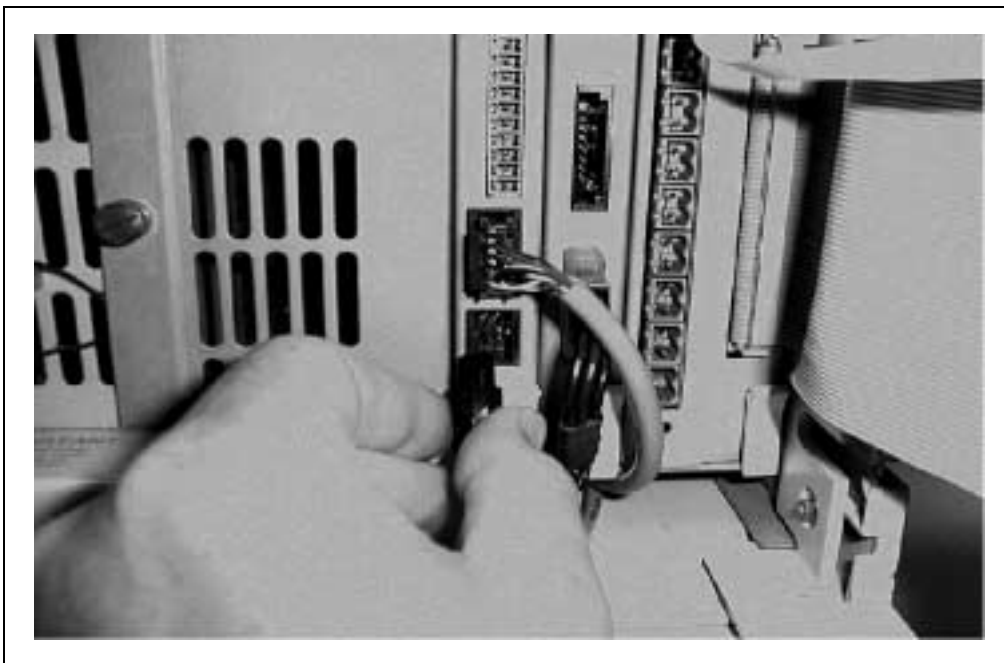

Figure 1. Disconnecting the SRS Cable from the SCR Card
- b. Unplug the SRS cable from the J3 connector (see Figure 1).